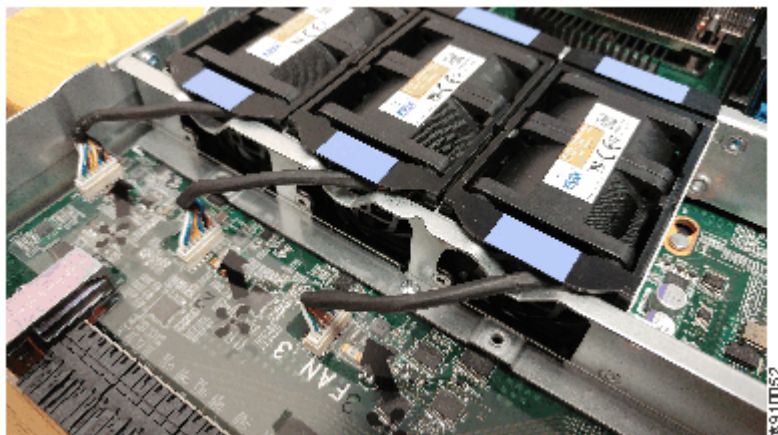

Figure 103. Aligning the cable connector
8. Install the replacement fan module into the vacant fan slot. The cable must face toward the canister front. Be careful to ensure the connecting cable passes over the air dam at the V-shaped indent, as shown in Figure 103 on page 143. Ensure that the cable is not caught under the fan module.